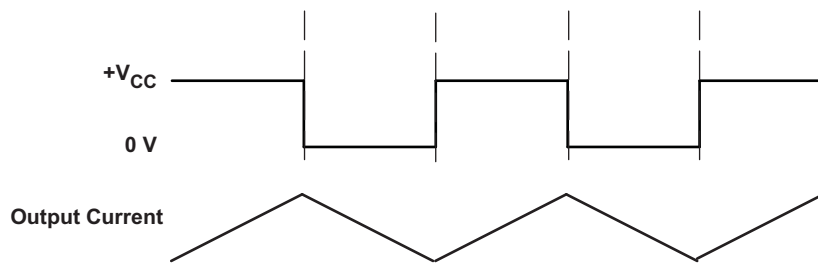

Figure 26. Class-D Modulation for TPA3125D2 SE Configuration
The TPA3125D2 operates in AD mode. There are two main configurations that may be used. For stereo operation, the TPA3125D2 should be configured in a single-ended (SE) half-bridge amplifier. For mono applications, TPA3125D2 may be used as a bridge-tied-load (BTL) amplifier. The traditional class-D modulation scheme, which is used in the TPA3125D2 BTL configuration, has a differential output where each output is 180 degrees out of phase and changes from ground to the supply voltage, V_{CC} . Therefore, the differential prefiltered output varies between positive and negative V_{CC} , where filtered 50% duty cycle yields 0 V across the load. The class-D modulation scheme with voltage and current waveforms is shown in Figure 26.